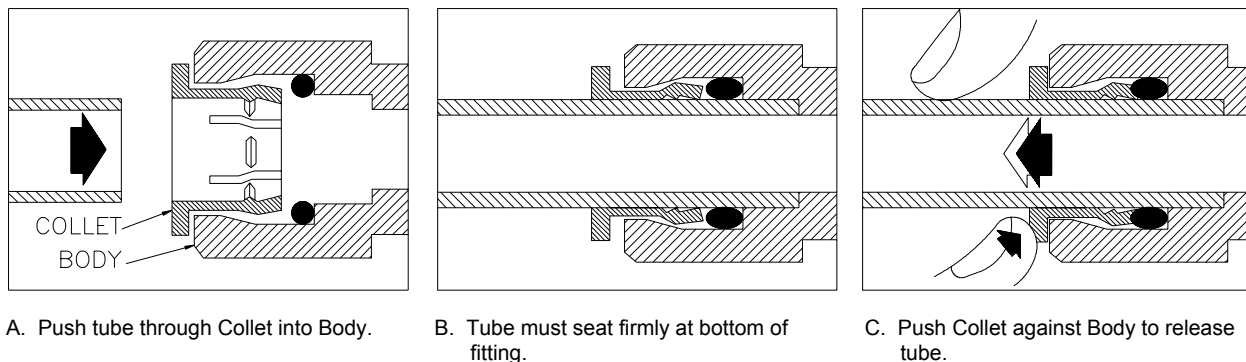

Figure 2: How to Use Quick-Connect Fittings
Fittings consist of two parts: a Body and a colored collet and symbol. Collet color and symbol corresponds to tubing to be used at that connection (Figure 2.A.).
1. To install a tube, push it through Collet until it seats firmly at bottom of fitting (Figure 2.A and 2.B.).
2. To remove a tube, push and hold Collet against Body while pulling tube out (Figure 2.C.).